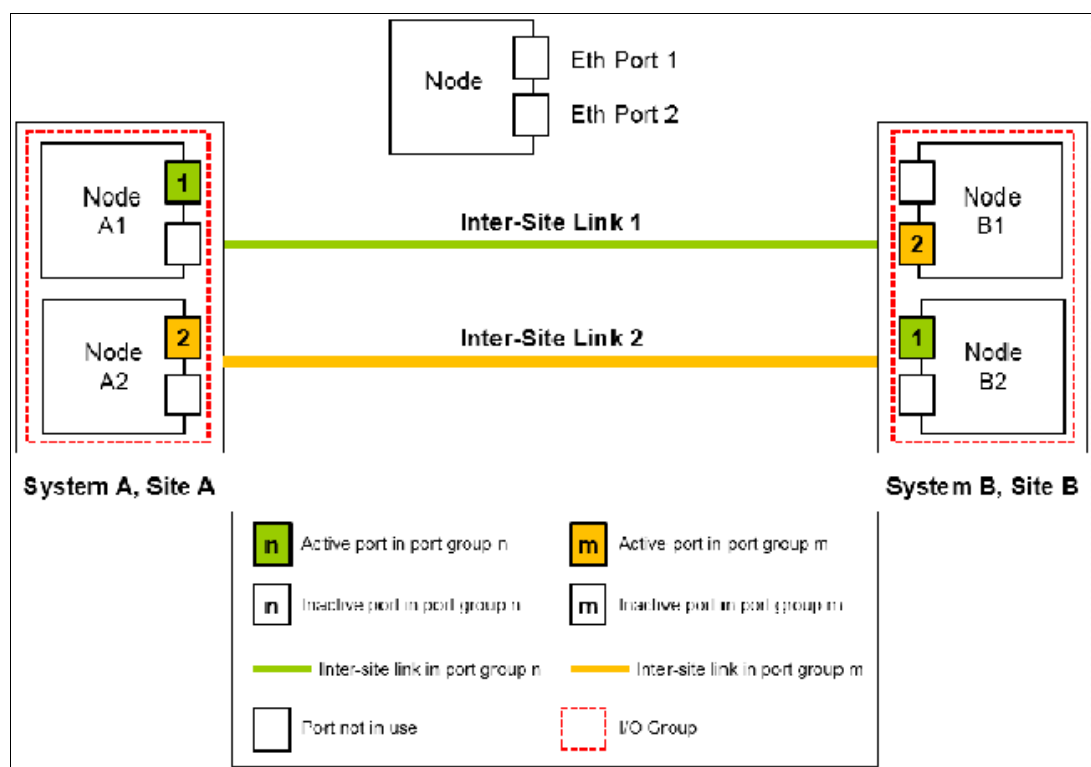

Figure 10-102 Dual links with two Remote Copy groups on each system configured
- ▶ Two 2-node systems with two inter-site links, as shown in Figure 10-102 (configuration 5).
As shown in Figure 10-102, RC port groups 1 and 2 are configured on the nodes in System A and System B because two inter-site links are available. In this configuration, the failover ports are not configured on partner nodes in the I/O group. Instead, the ports are maintained in different RC port groups on both of the nodes. They remain active and participate in IP partnership by using both of the links.